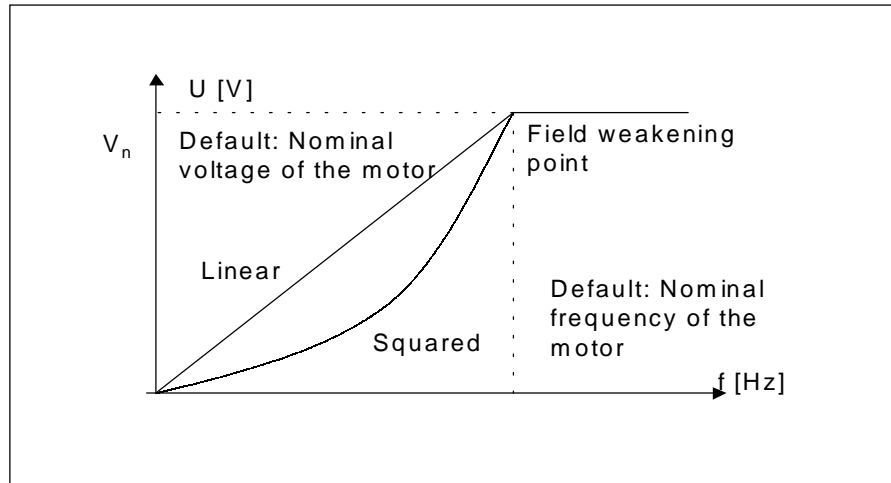

Figure 2.4-1 Linear and squared V/Hz curves.
- Linear: The voltage of the motor changes linearly with the frequency in the constant flux area from 0 Hz to the field weakening point (par. 6. 3) where a constant voltage (nominal value) is supplied to the motor. See figure 2.4-1.
Squared: The voltage of the motor changes following a squared curve form with the frequency in the area from 0 Hz to the field weakening point (par. 6. 3) where the nominal maximum voltage is supplied to the motor. See figure 2.4-1.